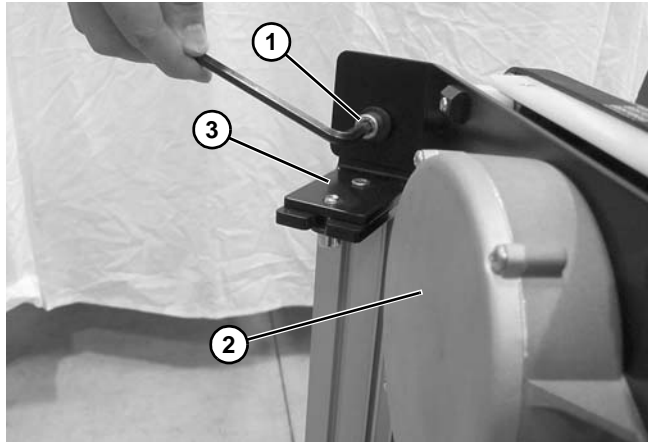

**Figure 156**
2. Remove two socket head screws (**Figure 156, item 1**) attaching corner motor module (**Figure 156, item 2**) to the outer conveyor rail (**Figure 156, item 3**).